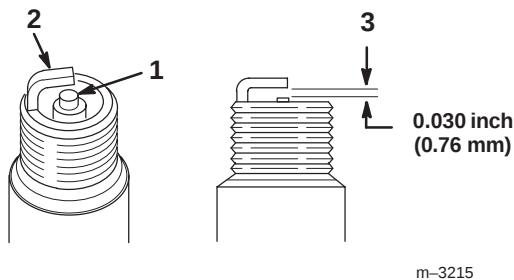

Figure 39
1. Look at the center of both spark plugs (Fig. 39). If you see light brown or gray on the insulator, the engine is operating properly. A black coating on the insulator usually means the air cleaner is dirty.
2. Check the gap between the center and side electrodes (Fig. 39).
3. Bend the side electrode (Fig. 39) if the gap is not correct.